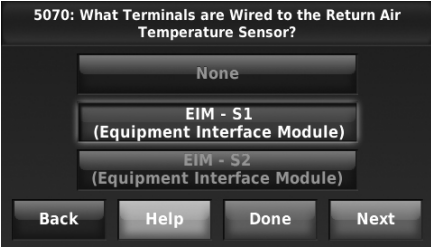

Fig. 9.
*Be sure to select the correct terminals for the discharge and return air sensors. For example, if the return air sensor is wired to S1, select S1 (see Fig. 9) for the return air sensor.*